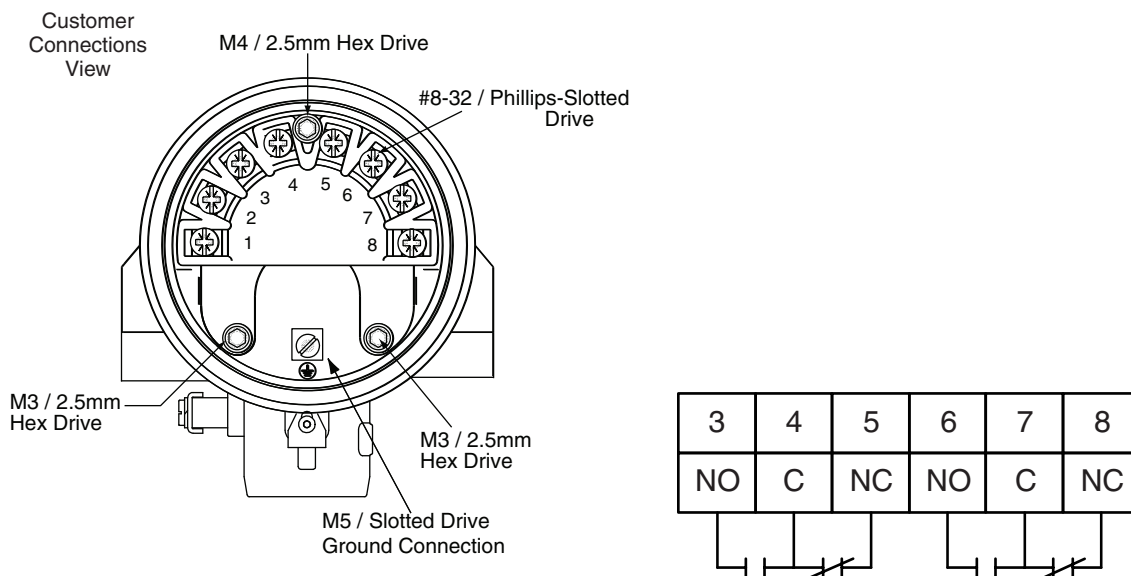

Figure 5-1
- A. Relay circuits consist of a single-pole double-throw relay contacts brought out to terminal strips for external switching. See **Figure 5-1**.